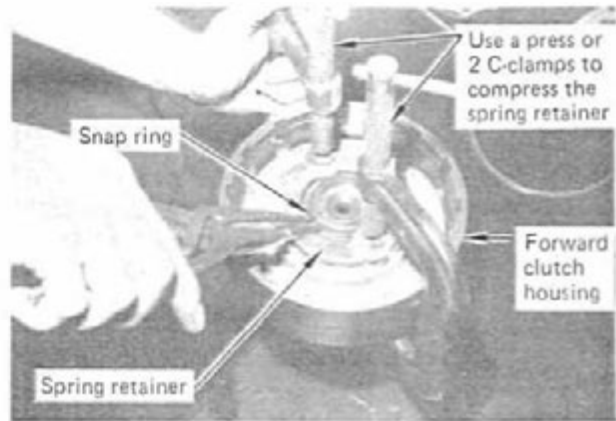

FIGURE 21
STEP 2. Place the housing in a press or use two C-clamps to compress the piston return springs and retainer. (See Fig. 21) Remove the retainer snap ring and relax tension on the retainer slowly. Remove retainer, sixteen return springs and forward clutch piston. Note the color code of the springs. Remove and discard two rubber lip seals from the piston and one rubber lip seal from the housing. The forward clutch assembly is ready to clean.